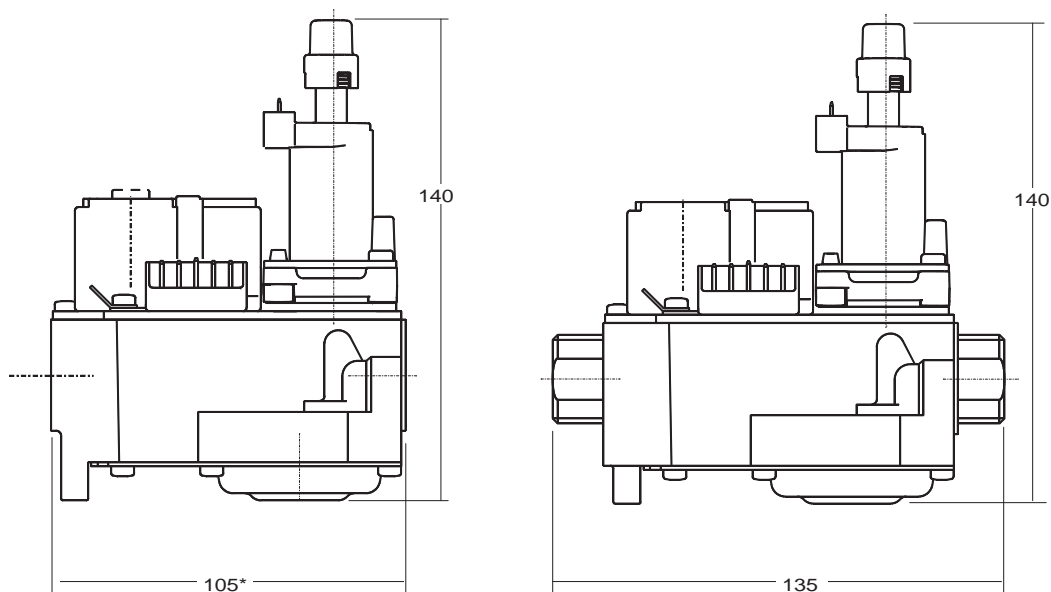

Fig. 2. Dimensions CVI with Moduplus®
- Mount Moduplus® on the gas valves. The electrical connectors of the Moduplus® coil must face the coil of the gas valve. (see fig. 2) The 2 mounting screws must be fastened to 3 Nm.